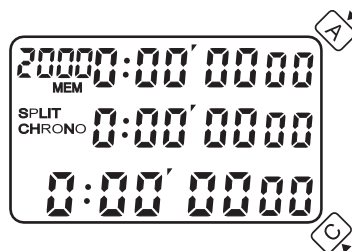

Fig. 2
- The display as shown in Fig. 2. Press A to start.
- Pressing and hold A button when the stopwatch is displaying the RACE RECORDS will clear the memories in that race record (when the contents in this race record are cleared the display will show CLEARED and sounds a long beep, if A is released before ED appears the memories will not be cleared) and continuously holding A button after this will clear the memories of all races (display will show ALL CLEARED and display will return to as shown in Fig.2. Memories are available for storage when they are cleared.